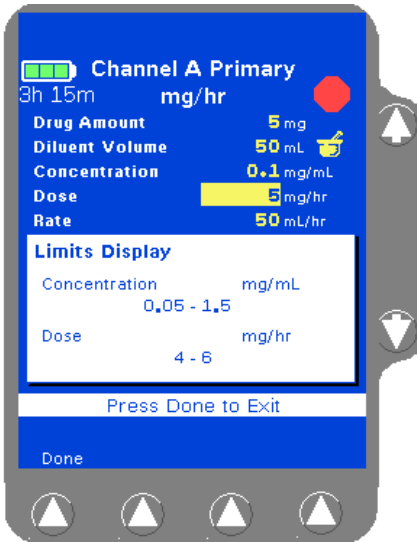

Figure 4-41 COLLEAGUE GUARDIAN Limits Display Pop-up
4. (Optional) To view a pop-up window (Figure 4-41) showing the limits programmed for the label, highlight the **Concentration** or **Dose** fields, then press the **View Limits** soft key. Press the **Done** soft key to close the pop-up and continue. Concentration limits cannot be overridden.